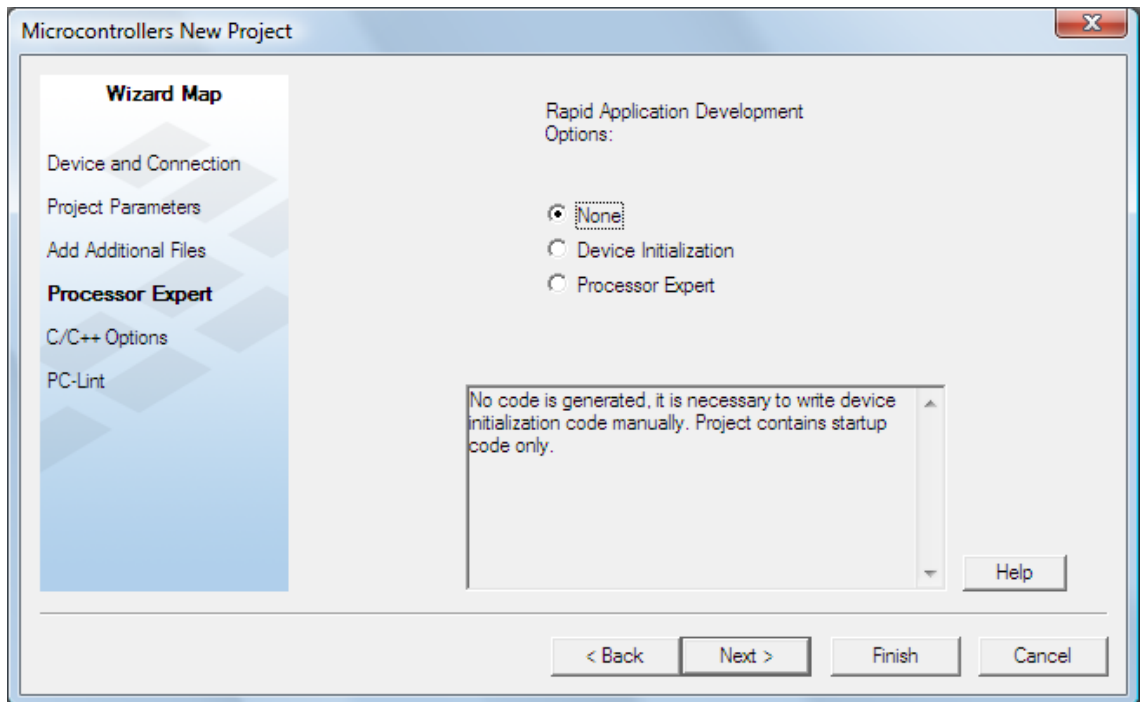

Figure 33: Don't use a Rapid Application Development wizard
5) The demonstration does **not** make use of the Processor Expert or Device Initialization wizards (Figure 33):